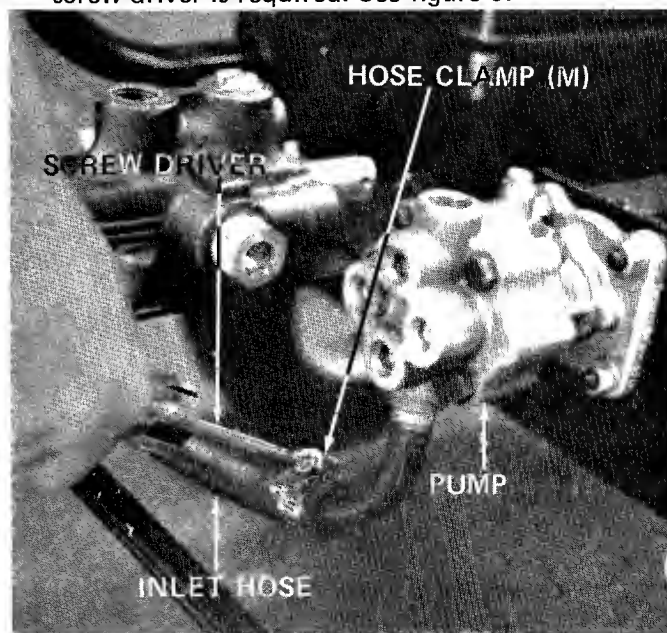

FIGURE 9
10. Secure pivot bushing in place on engagement rod with hex nut (D).
11. Secure the inlet hose to the pump with hose clamp (M), provided in hardware pack. A standard screw driver is required. See figure 9.